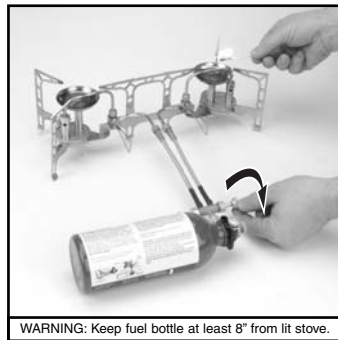

FIG. 28
- Hold lighted match at burner and then open fuel valve (Fig. 28).